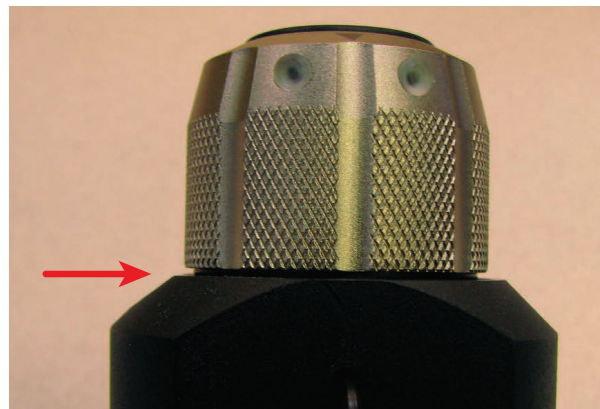

Figure 5: Gap between Cap and Padlock
14. Reinsert the pin as in Step 3.2 and rotate the cap clockwise approximately 10 degrees. Remove the pin and continue screwing on the cap until it locks in place a second time. There should be NO GAP between the cap and the padlock body. See Figure 5 for reference of visible gap.